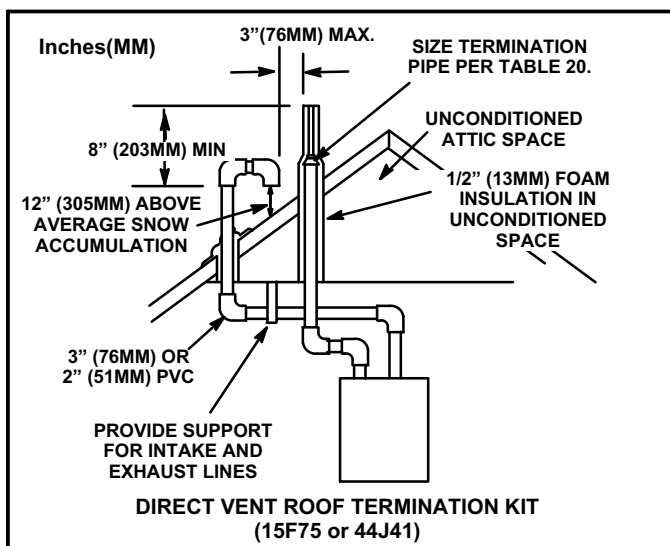

FIGURE 30
Intake and exhaust pipes may be routed either horizontally through an outside wall or vertically through the roof. In attic or closet installations, vertical termination through the roof is preferred. Figures 30 through 37 show typical terminations.
3. On roof terminations, the intake piping should terminate straight down using two 90° elbows (See figure 30).